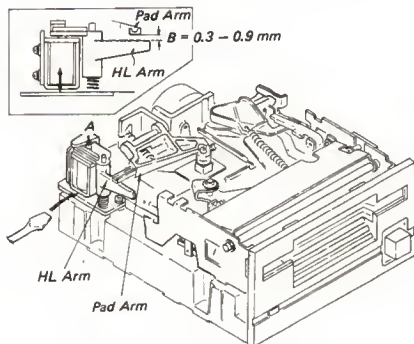

Fig. 5-9 HL Arm Height Adjustment
- d. Push down the plunger core of the head load ass'y at point A. (Refer to Fig. 5-9)
- e. Check if clearance B between the HL Arm and pad arm is set at a value within the range of 0.3 to 0.9 mm. (Refer to Fig. 5-9)
- b. Insert a \ominus driver beneath the plunger solenoid and slowly push up the plunger solenoid until clearance B becomes the specified value. (Refer to Fig. 5-9)